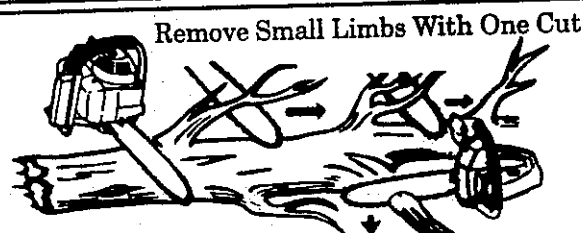

Figure 27
- c. Start at the base of the felled tree and work toward the top, cutting branches and limbs. Remove small limbs with one cut. Figure 27.